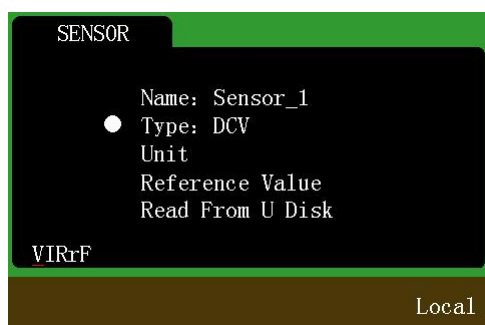

Figure 5- 24 Sensor item type selection
2. When the dot cursor stays at "Type", press the left / right arrow key or the Enter key to select the type of measurable value of the sensor, as shown in Figure 5- 24. In this interface: